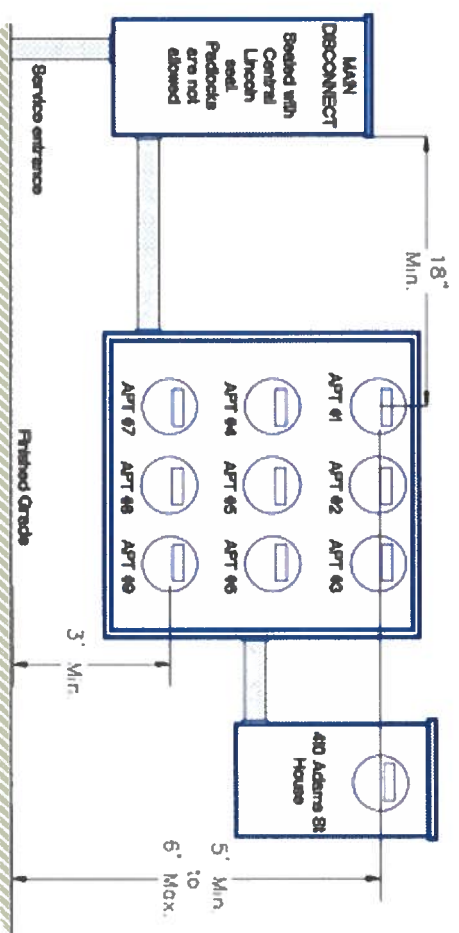

Figure D-2: Typical factory-built multiple meter assembly for an apartment complex
Meter bases shall be permanently labeled to indicate the part of the premises they service (i.e. unit number). The customer's name is not acceptable. Central Lincoln requires engraved phenolic nameplates at least one inch high and able to withstand severe weather conditions. Felt tip pens and label maker tape are not considered permanent markings. Service will not be established until marking is complete (see Figures D-2 & D-3).
Multiple meter installations shall comply with the equipment arrangement requirements shown in Figures D-2 and D-3.
- Both residential and non-residential multiple-meter panels are shown in Figure D-2. The socket center line will be a minimum of 3 feet and a maximum of 6 feet above the floor or finished grade.